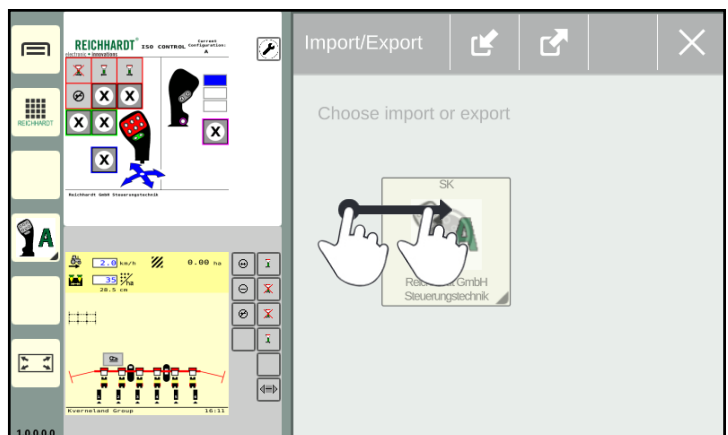

Fig. 58: Dragging the application into the required window and letting go
2. Drag the application into any window and let it go (see Fig. 58).